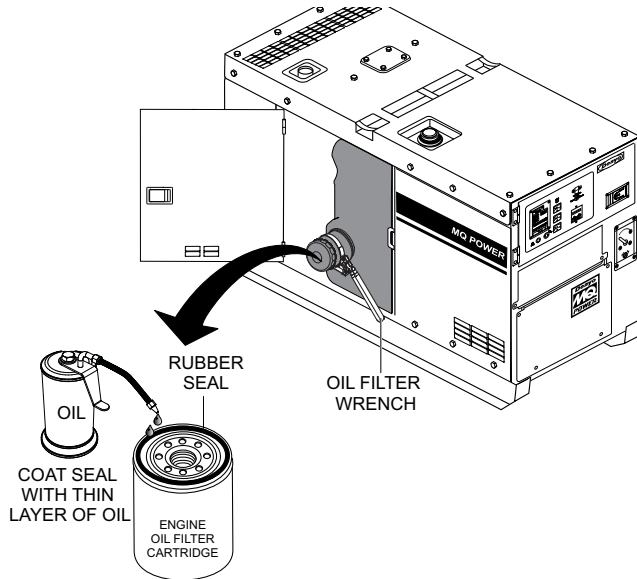

Figure 68. Oil Filter Replacement
2. Using an **oil filter wrench** (Figure 68), remove the engine oil filter.
3. Coat the rubber seal (gasket) surface of the new oil filter with clean 15W-40 engine oil (Figure 68).